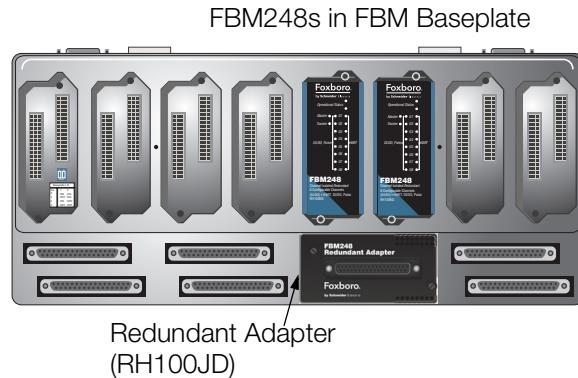

Figure 1. Redundant FBM248s Attached to a Redundant Adapter
Redundant modules must be located in adjacent positions on the baseplate (positions 1 and 2, 3 and 4, 5 and 6, or 7 and 8). To achieve the redundancy, a redundant adapter module is placed on the two adjacent baseplate termination cable connectors to provide a single termination cable connection (see Figure 1). A single termination cable connects from the redundant adapter to the associated termination assembly (TA).